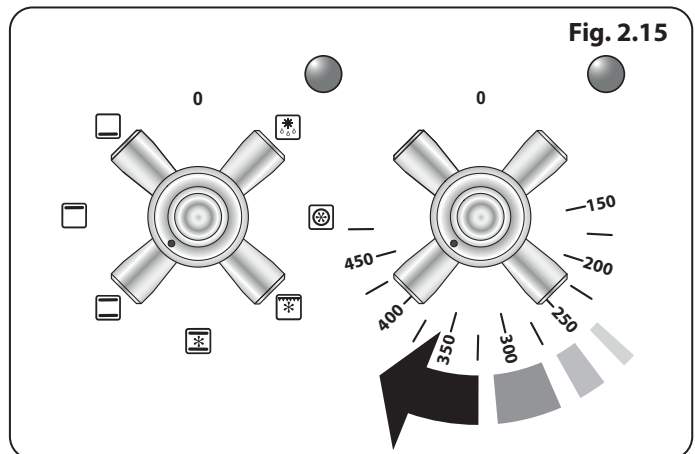

Fig. 2.15
2. Turn the function selector control to a cooking function. **Fig. 2.15** shows the control set for convectional oven cooking.
3. Turn the oven temperature knob to the temperature required (**Fig. 2.15**).